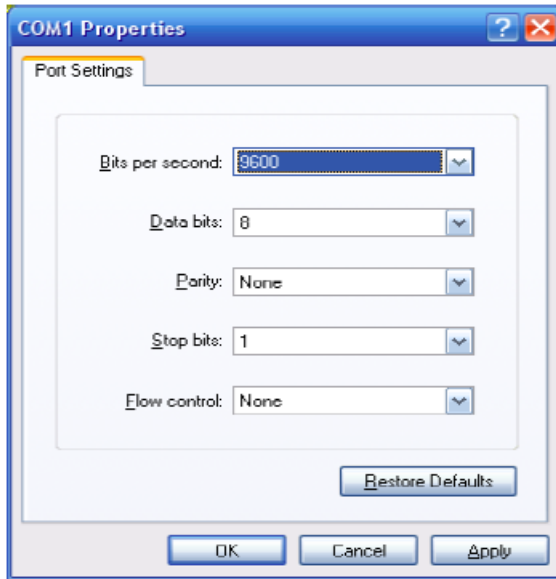

Figure 4: Communication Properties Dialog Box
4. In the Communication Properties Dialog box, select these: 9600 bits per second, 8 data bits, no parity, 1 stop bit, and no flow control.(Figure: 4)